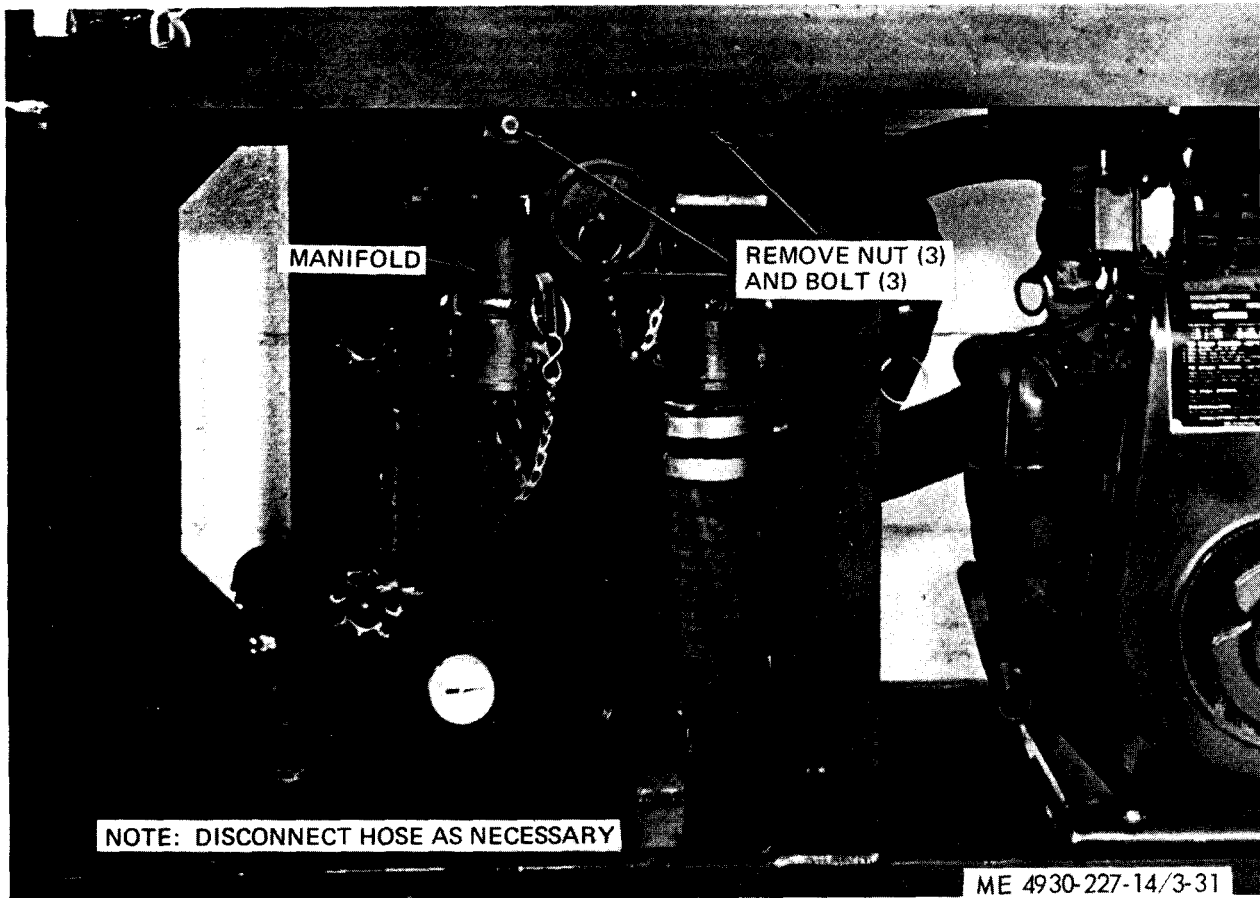

Figure 3-31. Manifold, removal and installation.
a. *Removal.* Refer to figure 3-31 and remove the manifold.
(1) Clean all parts with an approved cleaning solvent and dry thoroughly.
(2) Inspect all parts for breaks, cracks, and damaged threads. Replace a defective part.
c. *Installation.* Refer to figure 3-31 and install manifold.